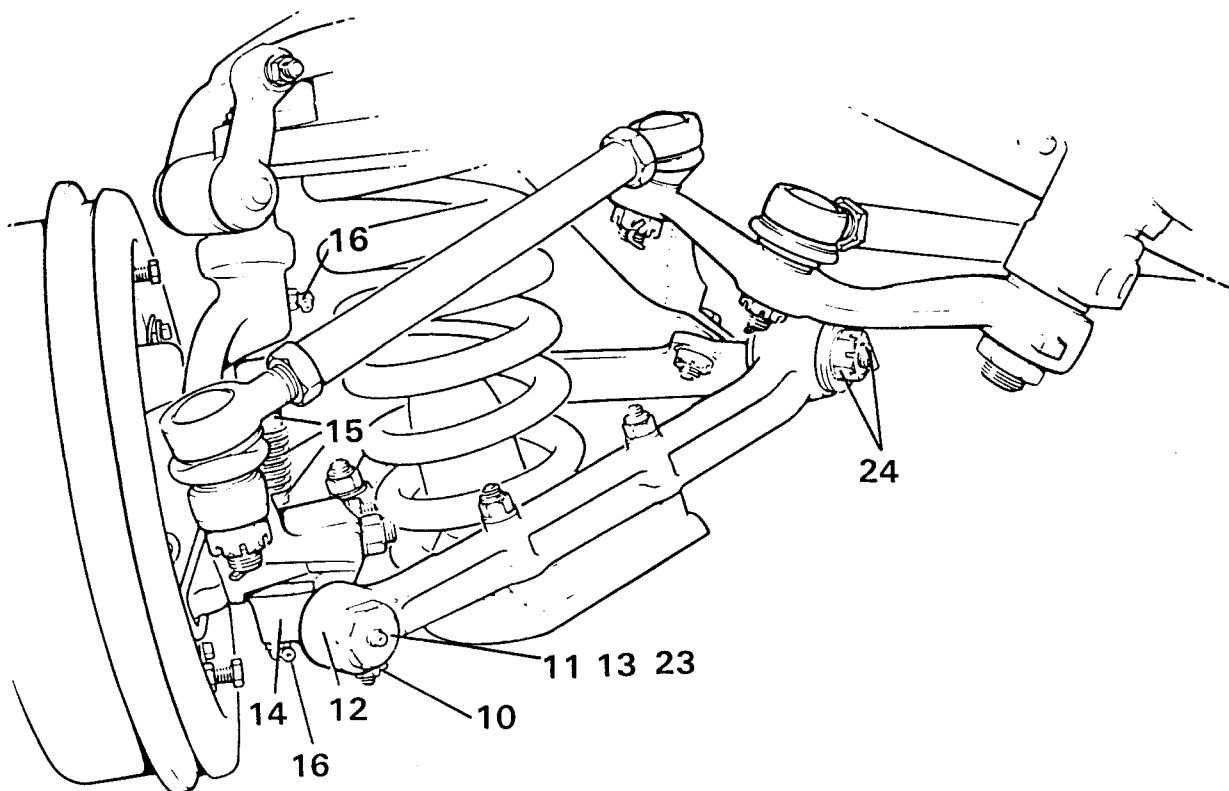

Figure 5
10. The lower fulcrum pin assembly can now be dismantled. Unscrew the nut on each of the coppers located in the ends of the lower wishbone arms. See figure 5.